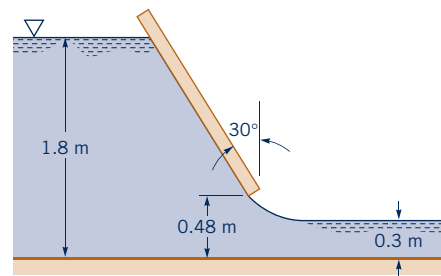

Figure P3.121
3.121 Water flows under the inclined sluice gate shown in Fig. P3.121. Determine the flowrate if the gate is 2.4 m wide.